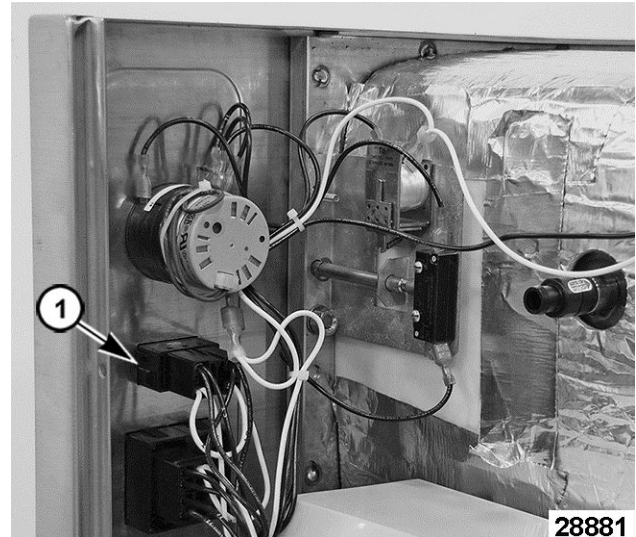

Fig. 69
2. Locate the indicator light assembly [1] Fig. 69 mounted to front panel.